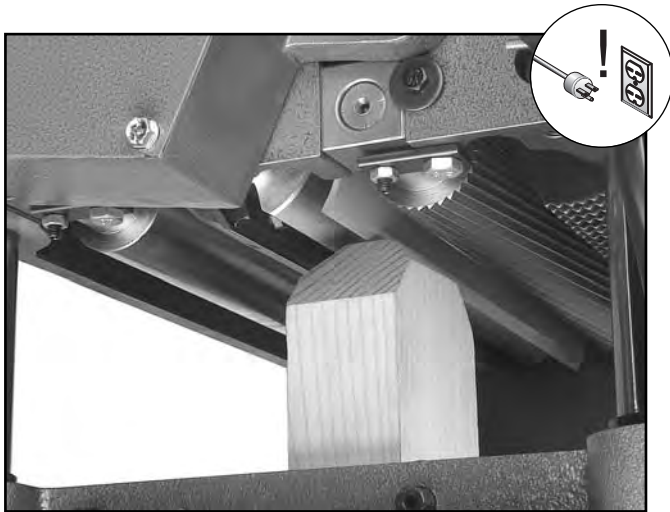

Figure 35. Gauge block under chip breaker.
6. Remove the feeler gauge and slide the gauge block under the chip breaker. **See Figure 35.** The chip breaker should just touch the top of the gauge block. Slide the gauge block to the opposite end of the chip breaker and check it in the same manner.